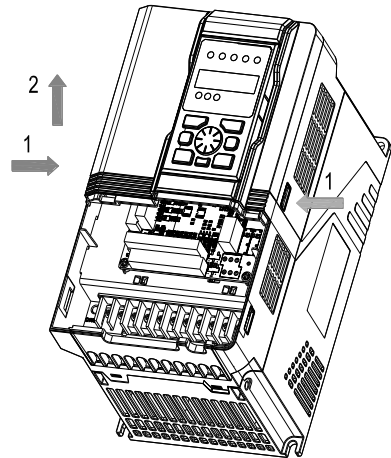

Fig.3-9 Remove the upper front cover
Step 3: Press the hook in both sides of the upper front cover in the direction of 1 as shown in Fig.3-9 and lift in the direction 2 to remove the upper front cover.